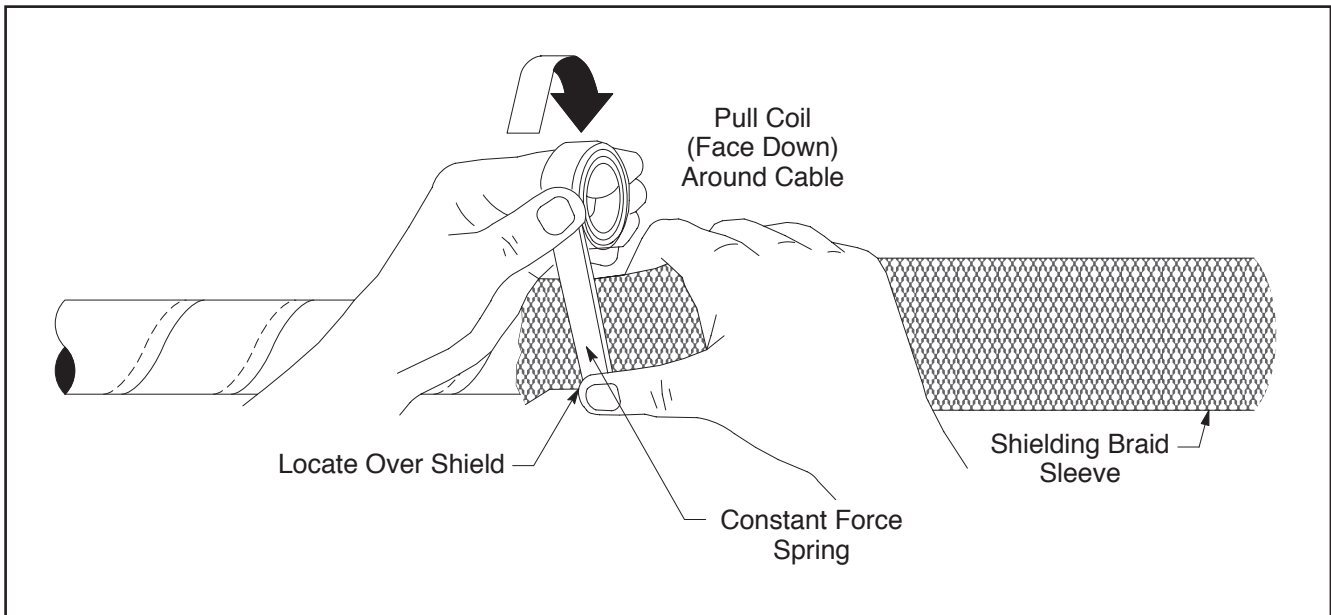

Figure 16
- d. Install a constant force spring at one end; position spring over cable metallic shield. With thumb, hold coil in place over sleeve (the rolled up coil should be facing away from you). Pull coil around cable for one wrap only (*Figure 16*).